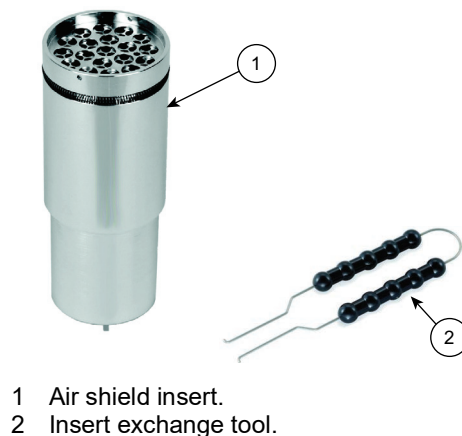

Figure 6: Air Shield Insert
Use the Insert exchange tool to put the air shield into the dry block, see Figure 6 item 2. A final push on the air shield is necessary to make the shield be fully in position.
2. Use the Insert exchange tool to pull the air shield out of the dry block, see Figure 6 item 2.